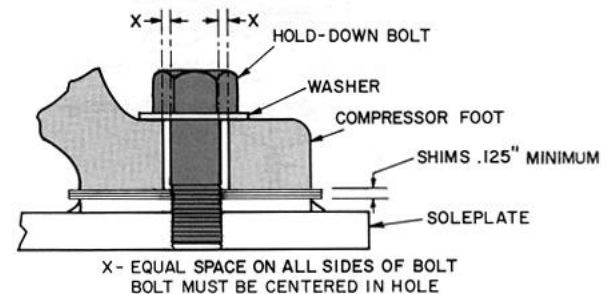

Fig. 1 — Machine Footing Hold-Down Bolt Arrangement
- Figure 1 — Machine Footing Hold-Down Bolt Arrangement
2. Insert approximately .125-in. of shims between each compressor foot and soleplate, as shown in Fig. 1.
3. Position compressor on soleplate so that hold-down bolts are as close to the center of the footing holes as possible (Fig. 1).